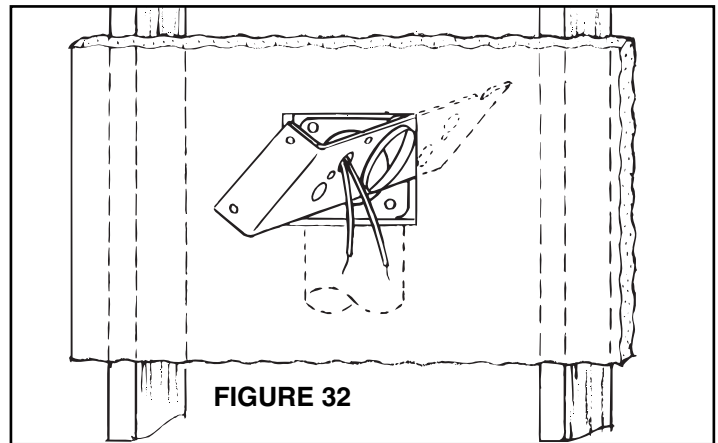

FIGURE 32
8. Remove plaster frame from mounting bracket. Pull low voltage wire through hole in bracket and insert bracket into cutout. Secure bracket to flanged fitting with four screws provided. Be sure seal is secure between flange fitting and mounting bracket (Figure 32).